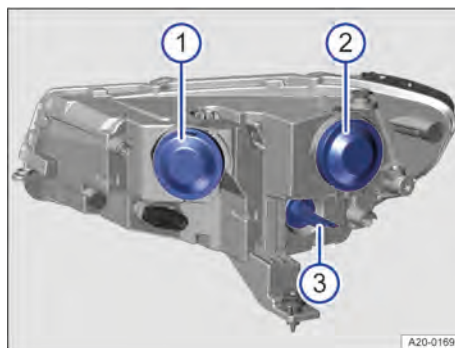

Fig. 171 In the bonnet space: covers on back of the right-hand headlamp.
1. Pull off rubber cover from back of headlamp → Fig. 171 ①.
5. Fit the rubber cover onto the rear of the headlamp → Fig. 171 ①.
1. Pull off rubber cover from back of headlamp → Fig. 171 ②.
5. Fit the rubber cover onto the rear of the headlamp → Fig. 171 ②.